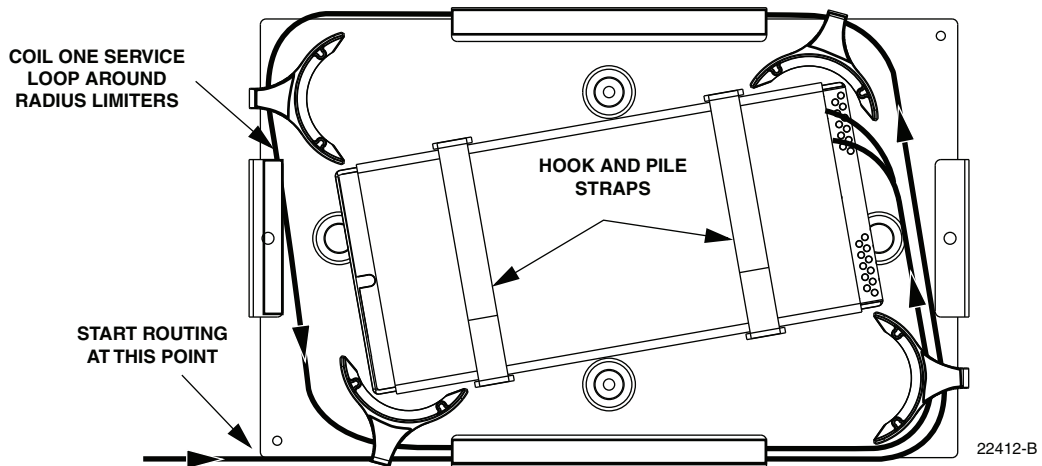

**Figure 23. Ribbon Fiber Splice Tray - Feeder Cable Splicing**
10. Splice the feeder cable fibers to the appropriate splitter fibers as specified by local policies and procedures. Adjust and route the fibers within the splice tray as shown in Figure 23. Refer to Table 3 for the splitter fiber designations.